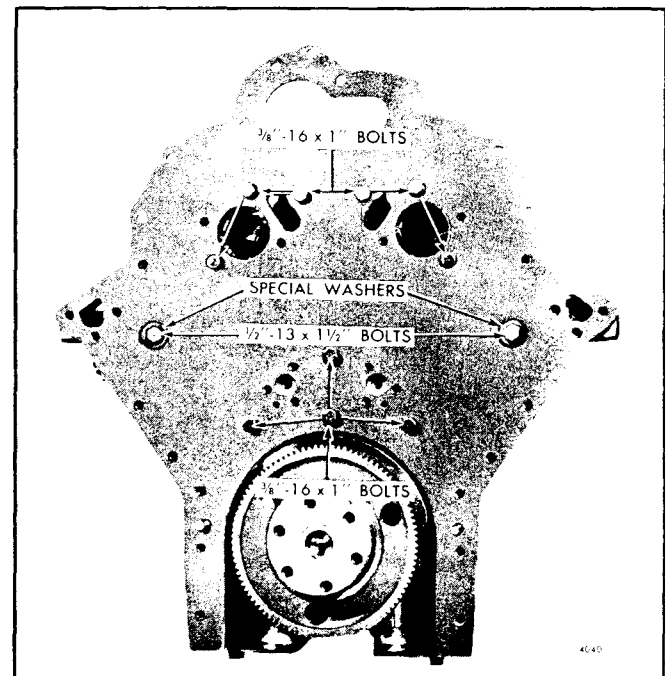

Fig. 2 - Cylinder Block Rear End Plate Mounting (V-Type Engine)
4. On a V-type engine, refer to Fig. 2 for the location and install the 3/8"-16 x 1" bolts with lock washers. Also install the two special washers and two 1/2"-13 x 1-1/2" bolts as shown when the fuel pump is driven off the camshaft, or one special washer and bolt when the fuel pump is driven by the accessory gear. Tighten the 3/8"-16 bolts to 30-35 lb-ft torque and the 1/2"-13 bolts to 71-75 lb-ft torque.